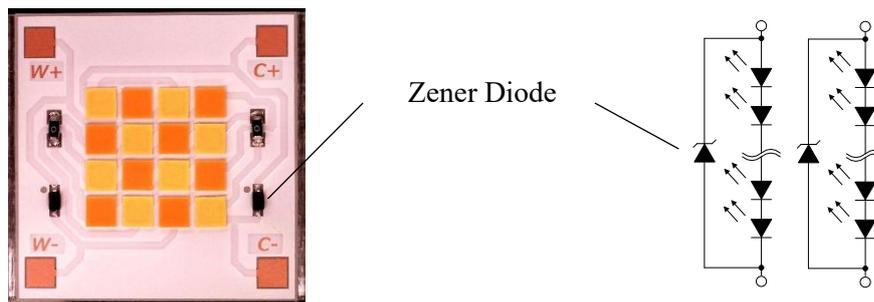

Figure 7. Example of a PCB with the LEDs and Zener Diodes
- Ensure that ESD current will be bypassed through the Zener diode(s); when selecting the location(s) to mount the Zener diode(s), it is necessary to identify the areas on the PCB where static charges are likely to occur (e.g. the areas where an operator may touch) in order to create an effective flow path for the ESD current. See Figure 7.